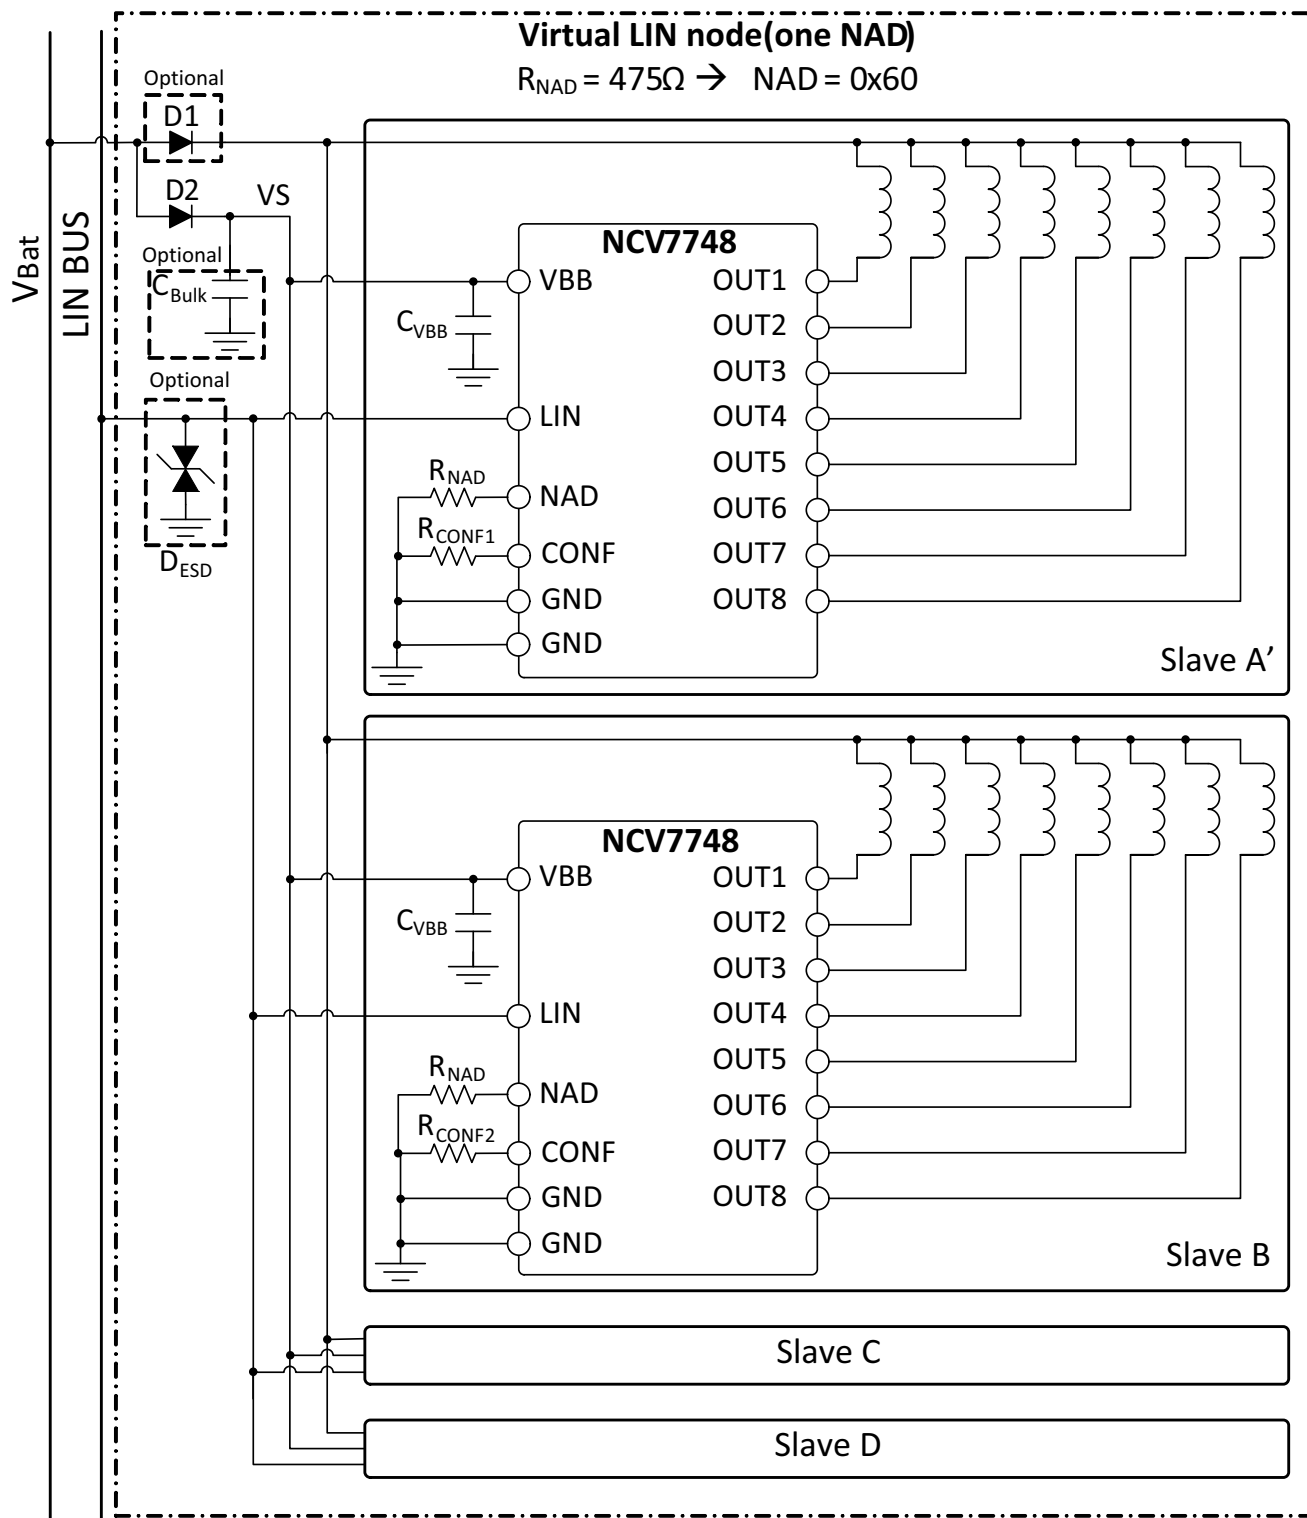

Figure 2. Application Diagram
**Table 2. EXTERNAL COMPONENTS SPECIFICATION** (See Figure 2)